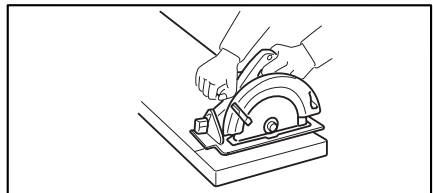
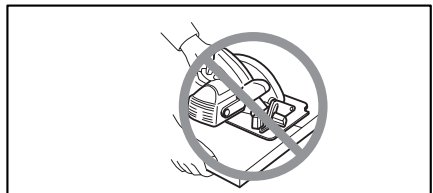

Fig. 5
Fig. 6
17. Place the wider portion of the saw base on that part of the workpiece which is solidly supported, not on the section that will fall off when the cut is made. As examples, Fig. 5 illustrates the RIGHT way to cut off the end of a board, and Fig. 6 the WRONG way. If the workpiece is short or small, clamp it down. **DO NOT TRY TO HOLD SHORT PIECES BY HAND!**